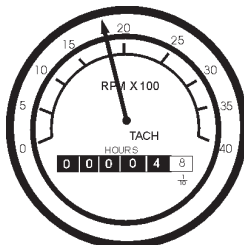

Figure 57. Engine Tachometer Gauge
19. The *tachometer gauge* (Figure 57) will indicate the speed of the engine when the generator is operating. Under normal operating conditions this speed is approximately 1800 RPM's.